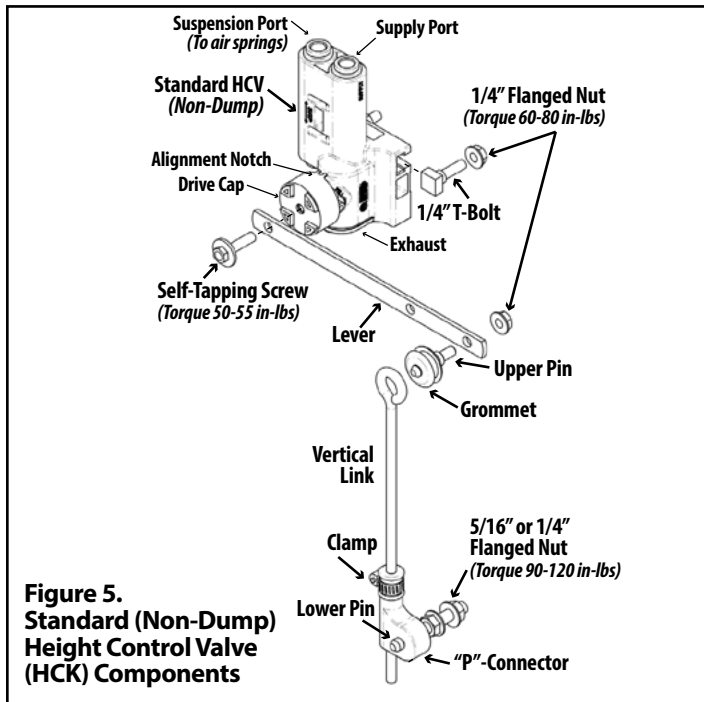

Figure 5.
2. Set drive cap alignment notch to the center (neutral) position. Lever moves up to fill ("FILL"); down to exhaust ("EXH"). Attach lever. Torque to 50-55 in-lbs (Figure 5).
4. Attach "P"-Connector to lower mounting bracket with lower pin. Torque to 90-120 in-lbs (Figure 5).